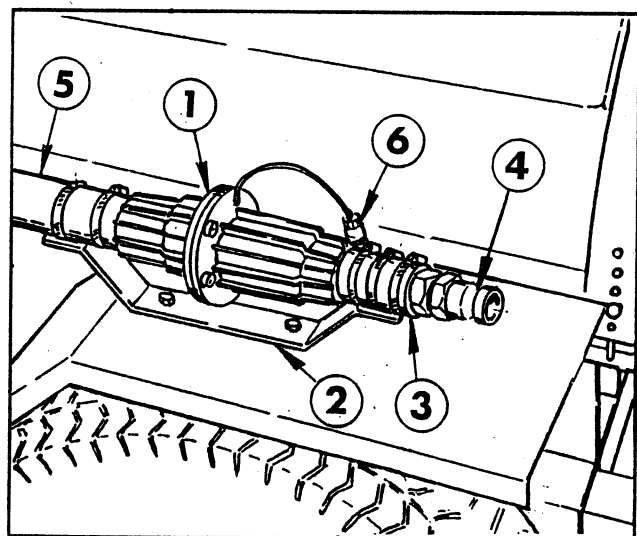

FIG. 8
1. Attach a 1-1/4" x 3" Adaptor Hose to the barb on the outlet end of the Flow Meter. Secure with a hose clamp. See FIG. 8
- Secure the Flow Meter to the Mounting Bracket with the two (2) hose clamps furnished.
- Connect the 1-1/4" x 18" Supply Hose between the barb on the inlet end of the Flow Meter and the hose barb in the tee at the Pump. Secure with two (2) hose clamps.
- Position the completed Flow Meter Assembly on the Mounting Bracket as shown in FIG. 8.
- Install the Mounting Bracket to the Vehicle's left rear fender, using two (2) 5/16 x 1" cap screws, flat washers and hex nuts. See FIG. 8.